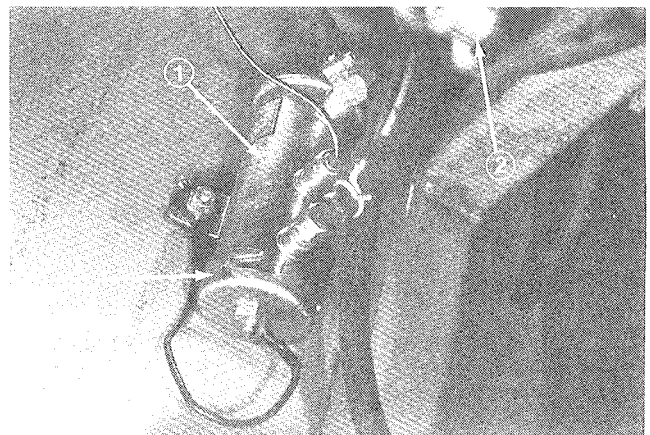
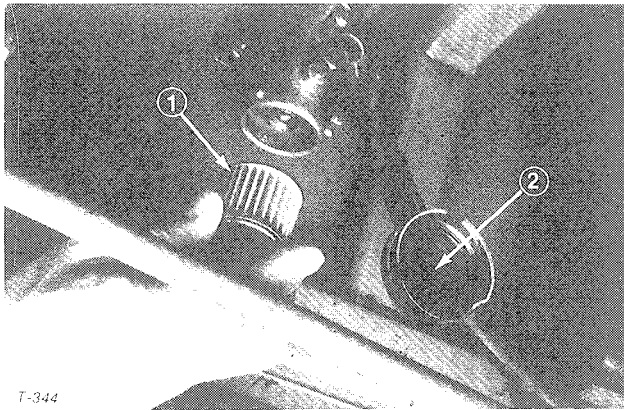

Figure 45
Figure 46
- 1. Fuel pump is located on inner frame bulkhead to left of drive coupling assembly (Fig. 45).
- 3. Place a drain pan under fuel pump and remove cover from fuel pump with 17 mm wrench (Fig. 45). Take care not to damage wire while removing cover.
- 4. Pull filter out of pump body (Fig. 46).
6. Clean magnet of any residue (Fig. 46), insert filter into body, and install cover (Fig. 45).